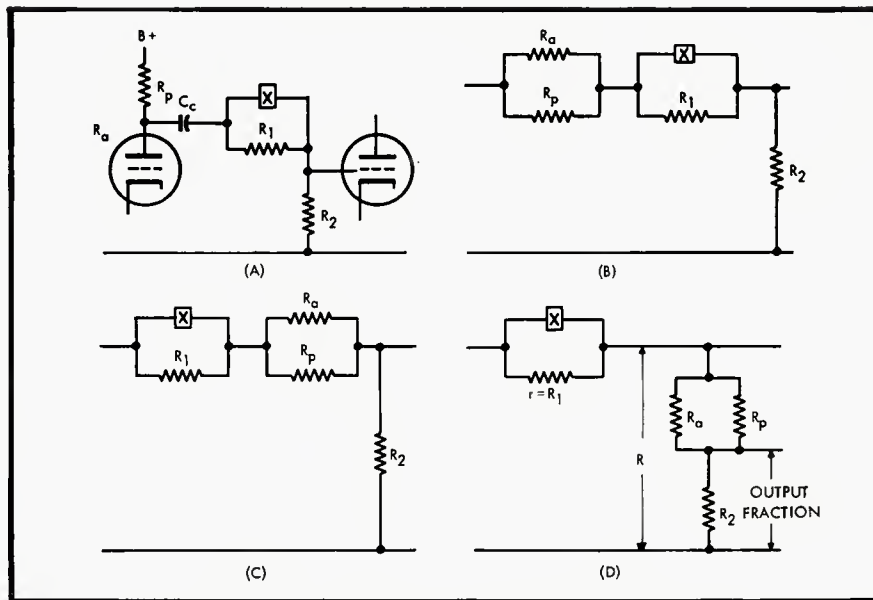

Fig. 15. Step by step reduction of practical circuit to basic network, for arrangements of (A) in Fig. 1, or (A) or (C) in Fig. 7.
tion of (A) in Fig. 1 which can also be applied to the peaking circuit of (A) in Fig. 7 or the dip circuit of (C) merely by substituting in the right values of reactance. The commonest application of these circuits is between two stages of amplification as illustrated at Fig. 15. This might be reduced to the form of the ideal arrangement of (A) in Fig. 1 or (A) and (C) of Fig. 7 by the transposition shown in Fig. 15.
First the source resistance produced by the parallel combination of the plate resistance of the preceding tube with its plate coupling resistance is calculated and represented as a series source or input resistance to the network. As the frequency discriminating portion is connected across just the resistance element  $R_1$  the voltage distribution across the rest of the resistances in the circuit—that is, the source resistance and the output resistance  $R_2$ , will be uniform and the result will be precisely similar to that attained if the position of the source resistance and the series frequency modifying component consisting of  $R_1$  and the reactance element is transposed as in (C) of Fig. 15. This can then be rearranged to show the behavior of the circuit more explicitly as at (D).